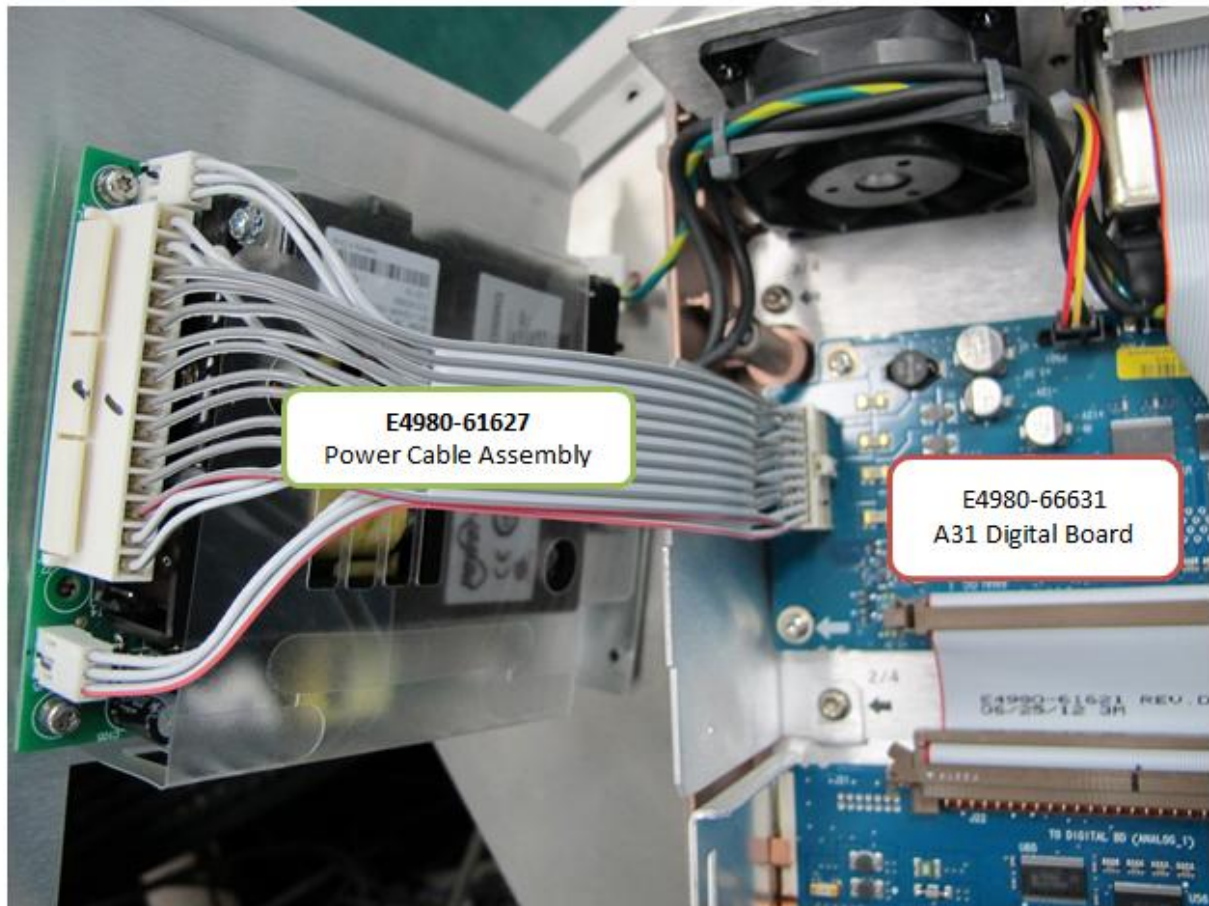

Figure 1-1
2. Install the A31 Digital board **E4980-66631** onto the unit as shown in figure 1-1.